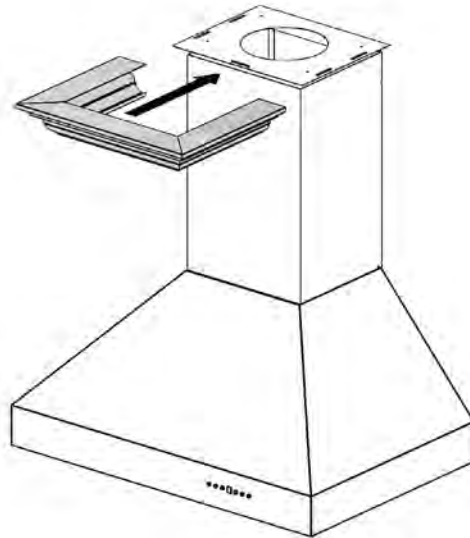

Figure 3
4. Extend the chimney up to the transformer. Slide the crown molding onto the crown bracket and secure into place. The crown should cover the gap. Ensure that it installs properly and is level. *Figure 3*